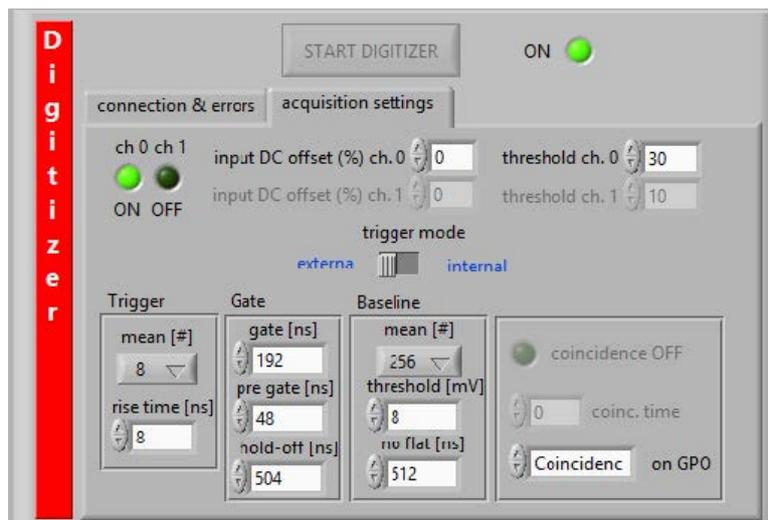

Figure 23: Example of waveform digitizer panel settings
3. Accept the default values for Trigger, Gate, and Baseline sub-panels. They should be set as the following (see Fig. 23):